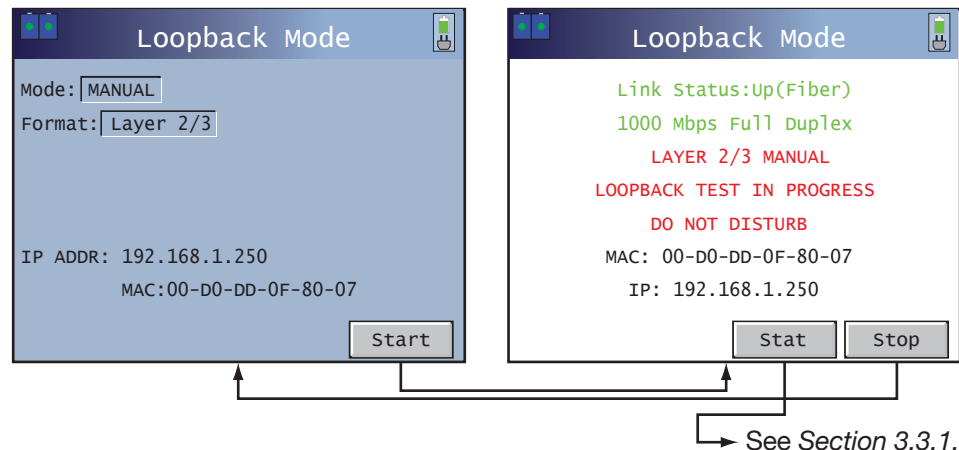

Figure 11 Manual Layer 2/3 Loopback Mode Screens
- In the left screen of Figure 11, the GigE Responders current MAC and IP addresses are displayed so the remote traffic generator can specify the valid destination addresses in the packets to traverse through routed network to reach GigE Responder for loopback.